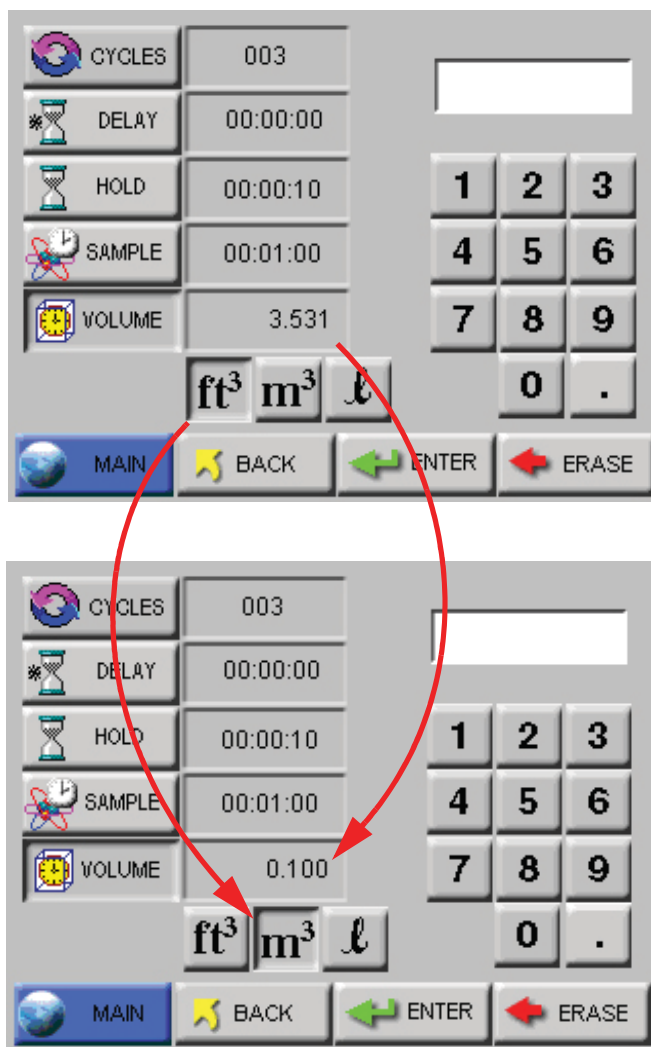

Figure 6-29 Changing Sample Volume Unit of Measure
- **SAMPLE VOLUME:** Instead of selecting a specific Sample Time, the instrument can be set to measure a specific Sample Volume in cubic feet (ft^3), cubic meters (m^3) or liters (l). When this is set, the corresponding Sample Volume will automatically be set. See Figure 6-29.